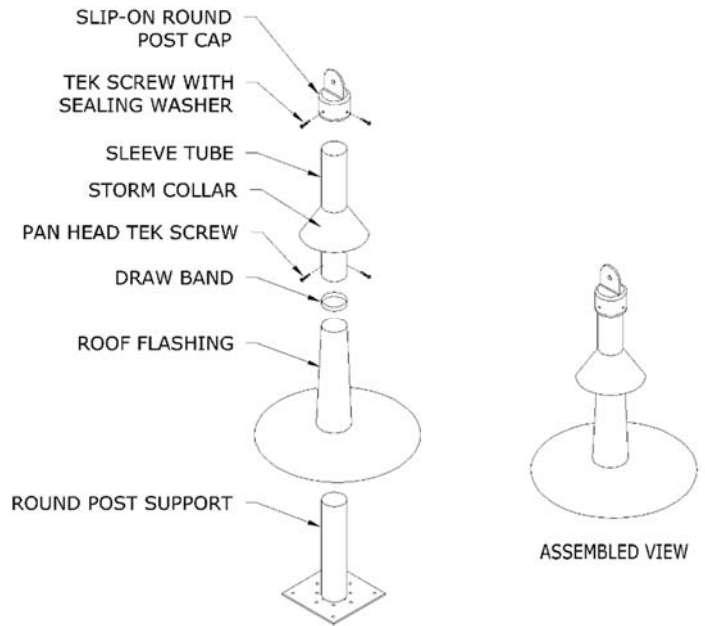

FIGURE 4
**Adjustable Height Post:** If your project has variable and/or multiple roof slopes, adjustable height posts are used. Adjustable post configurations include a Sleeve Tube that telescopes on the Round Post Support to allow height adjustment (see Figure 4).